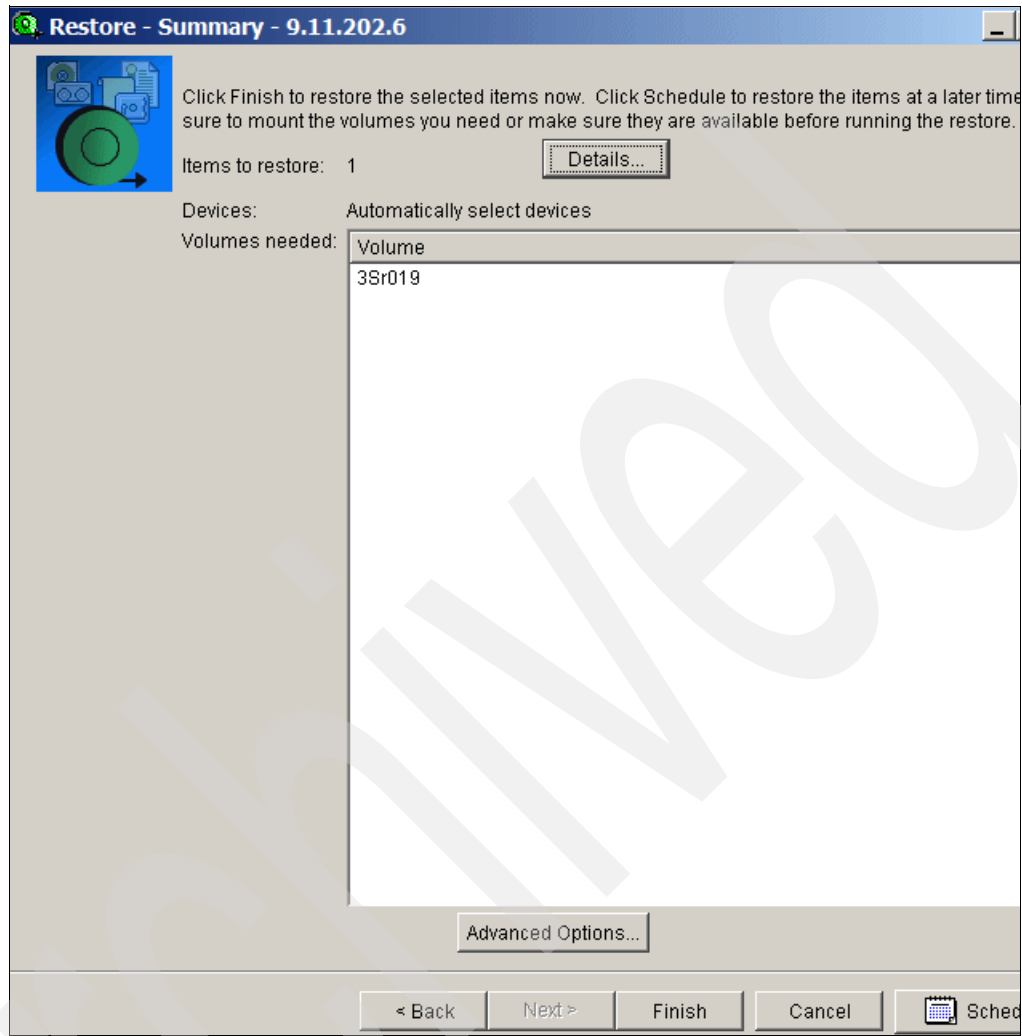

Figure 6-42 Check and confirm which data you want to restore
6. The next *Restore* wizard presents you a window where you can check if the data you want is specified to be restored. After checking, click **Finish**, as shown in Figure 6-42.